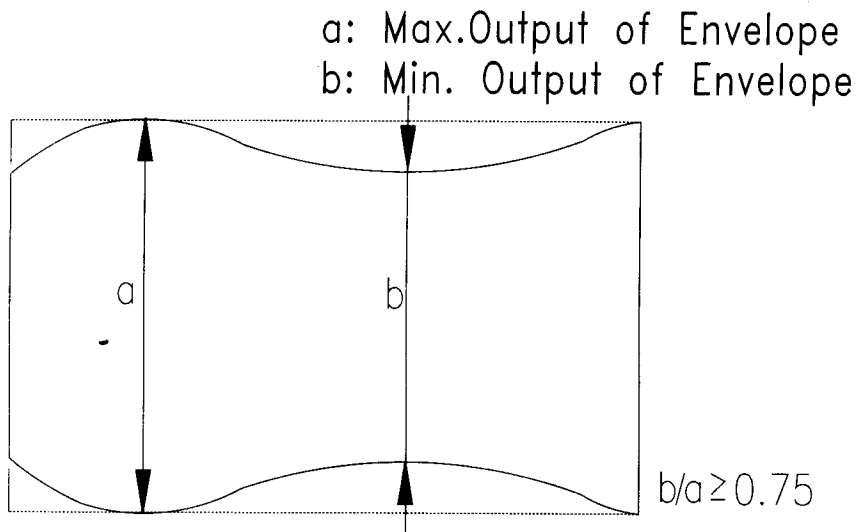

Fig. 5-7 LINEARITY ADJUSTMENT
- f. Adjust the S/T GUIDE ROLLER until the envelope signal waveforms of the entrance and the exit sides are as shown in Fig. 5-7.